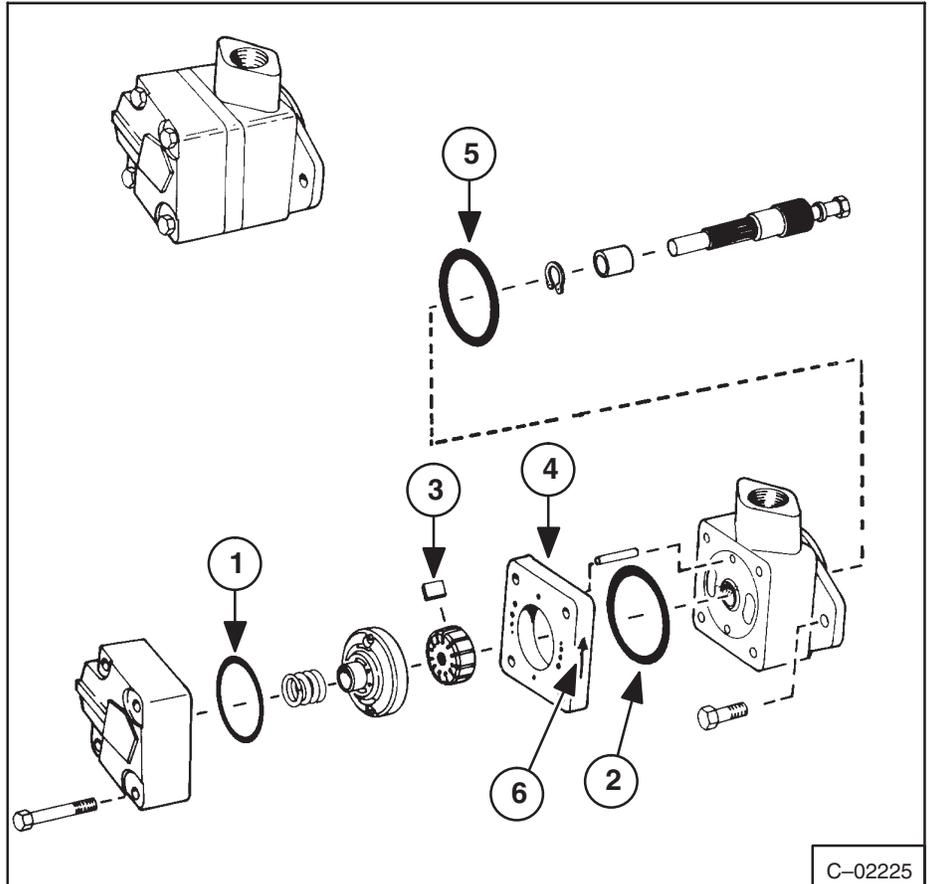

Fig. 2-35 Hydraulic Vane Pump
3. The seals (Fig. 2-35, Items 1 & 2) can be replaced. Check them for damage.
4. The vanes (Fig. 2-35, Item 3) and the center section (Fig. 2-35, Item 4) can be replaced. Check these items for wear and damage.
5. Bevel of vanes must be toward the direction of the arrow (Fig. 2-35, Item 6).
6. Assemble the hydraulic pump (Fig. 2-35).
3. Check the O-ring (Fig. 2-35, Item 5) for the damage and replace as needed. Install the O-ring.